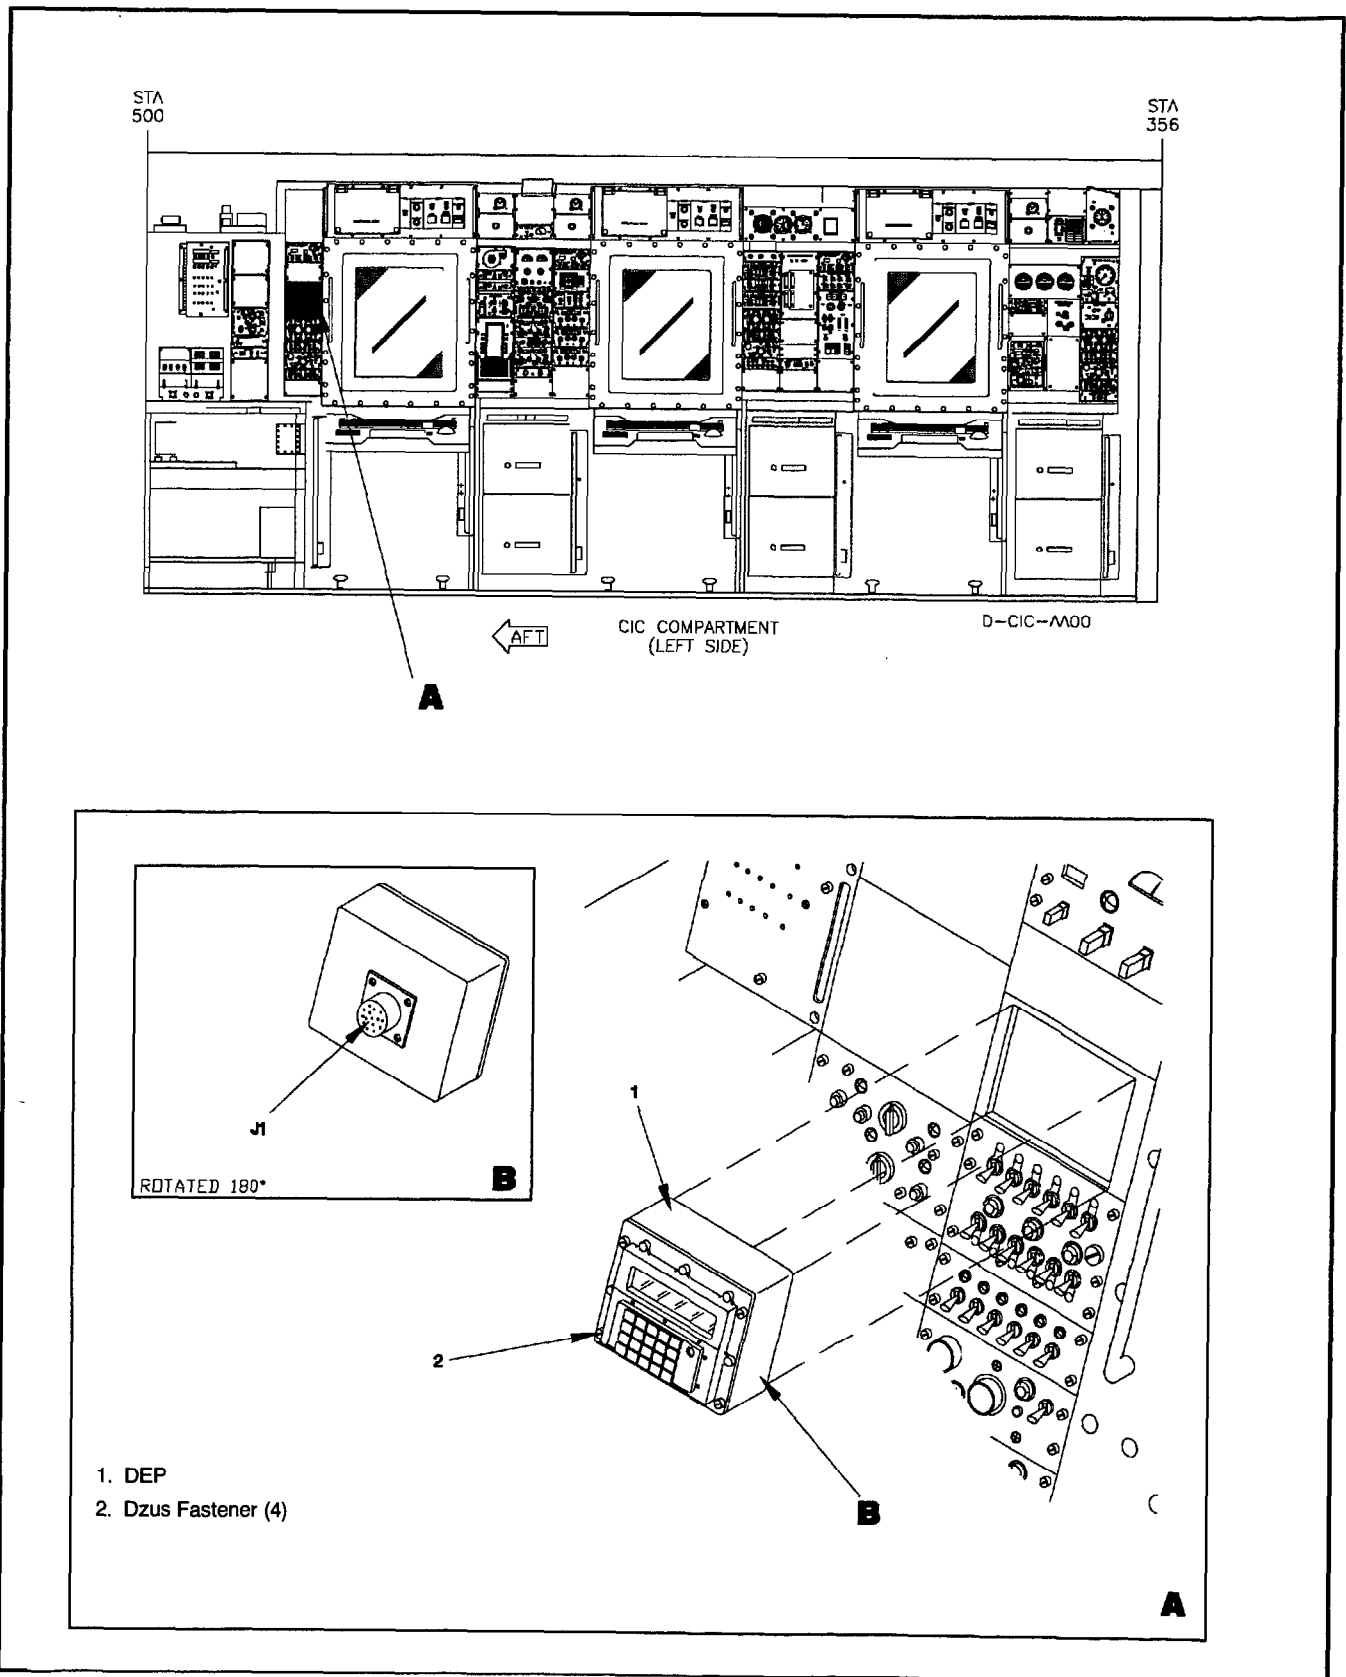

Figure 1. Removal and Installation of Display Entry Panel C-12226/USC-42(V)
- d. Disconnect connector from J1 on the DEP (1).
- e. Remove the DEP (1).
- f. Place protective caps on all plugs and receptacles on the DEP (1).
**5. INSTALLATION. (figure 1.)**